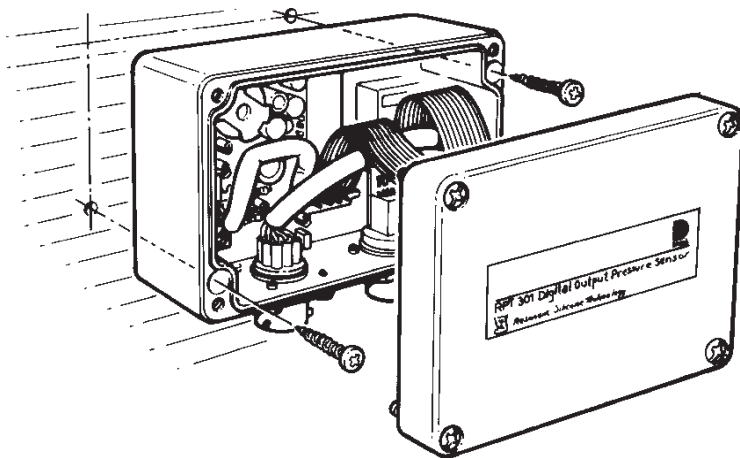

Figure 2-1 Mounting Arrangement
2.1 Mounting the Instrument (Figure 2.1)